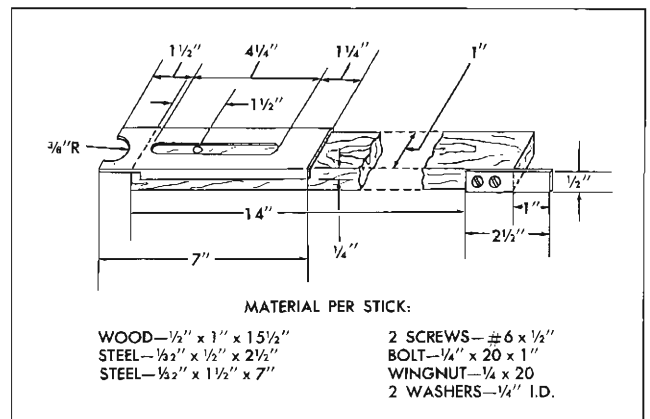

Fig. 21-19 Spacer Stick Dimensions
17. Spacer stick may be fabricated as shown in Fig. 21-19.